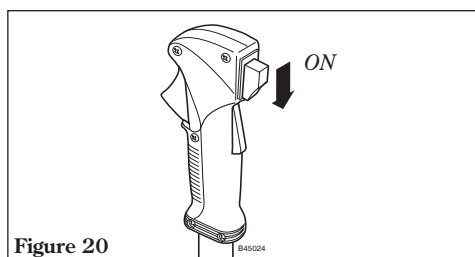

Figure 20
2. Slide the ignition switch to I (ON) position. See Figure 20.